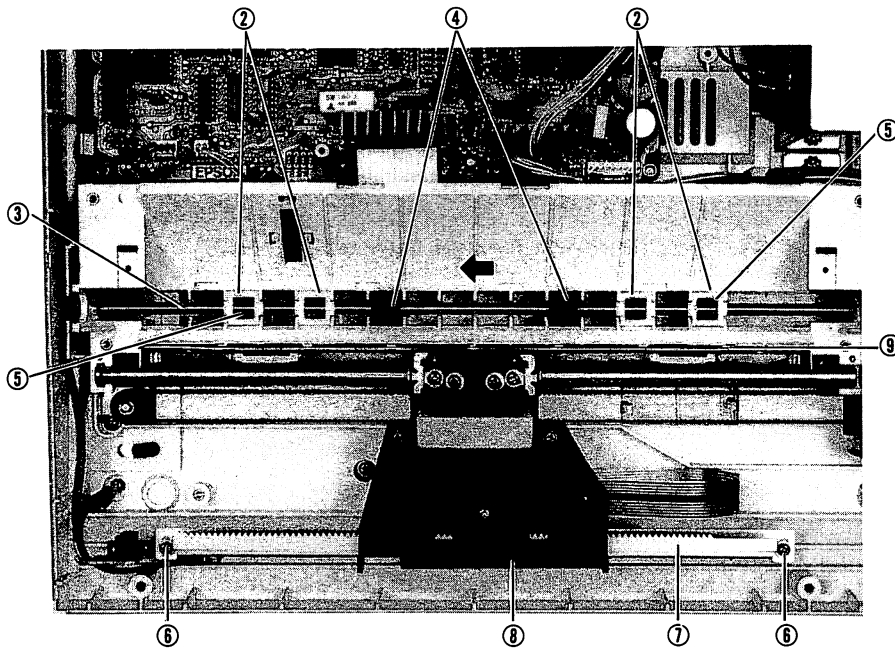

Fig. 4-13. Paper Feed Mechanism Removal
4.2.14 Paper Guide Auxiliary Plate Removal (Fig. 4-13)